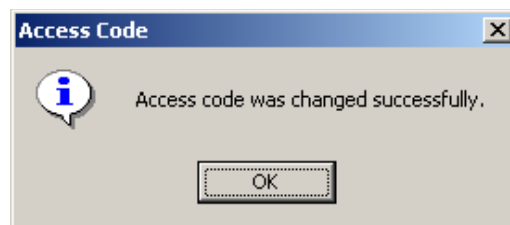

Figure 4-3 Access Code Changed Confirmation Screen
4. Select **Yes**, IPScOm will display an Access Code Was Changed Successfully Confirmation Screen (Figure 4-3).
4. Select **Yes**, IPScom will display an Access Code Was Changed Successfully Confirmation Screen (Figure 4-3).